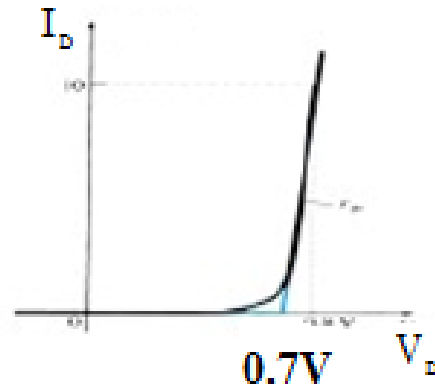

Fig.18: Piecewise linear equivalent circuit
- One technique for obtaining an equivalent circuit for a diode is to approximate the characteristics of the device by straight-line segments, as shown in Fig.18.